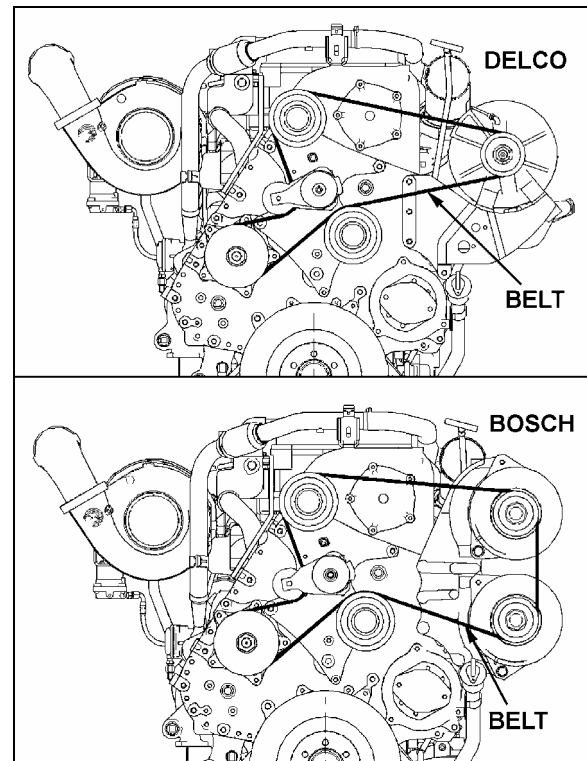

FIGURE 39: ALTERNATOR DRIVE BELT
1. Insert a 3/4" socket drive into the tensioning arm opening (Fig. 39).